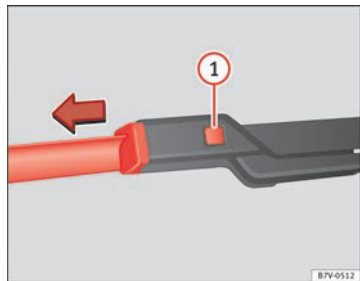

Fig. 161 Changing the front wiper blades
- Hold down the release button ⇒ Fig. 161 ① while gently pulling the blade in the direction of the arrow.